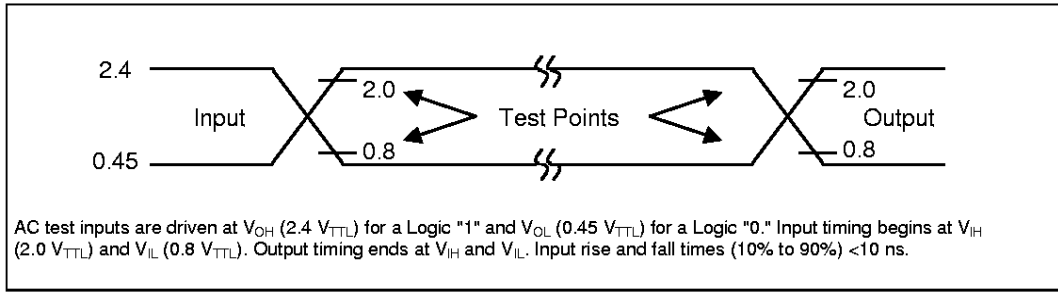

Figure 13. Transient Input/Output Reference Waveform for $V_{CCQ} = 5.0\text{ V} \pm 10\%$ (Standard Testing Configuration)
- See Figures 13–15, *Transient Input/Output Reference Waveform for V_{CCQ} = 5.0 V ± 10%*, *Transient Input/Output Reference Waveform for V_{CCQ} = 2.7 V–3.6 V*, and *Transient Equivalent Testing Load Circuit* for testing characteristics.